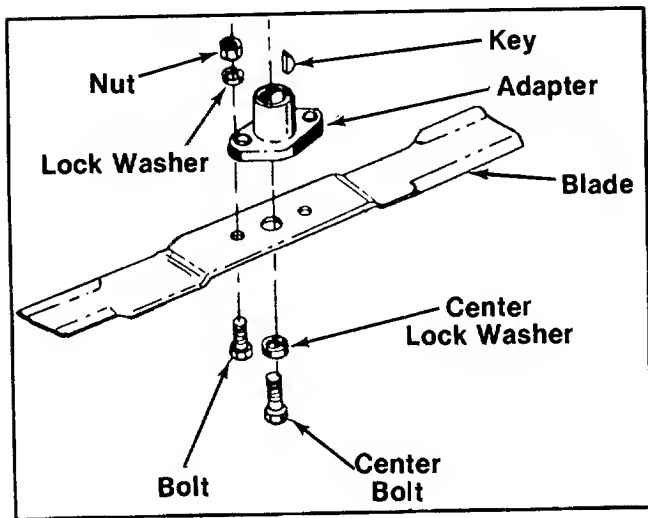

FIGURE 16.
1. Remove the large bolt and lock washer which holds the blade and adapter to the engine crankshaft. See figure 16.